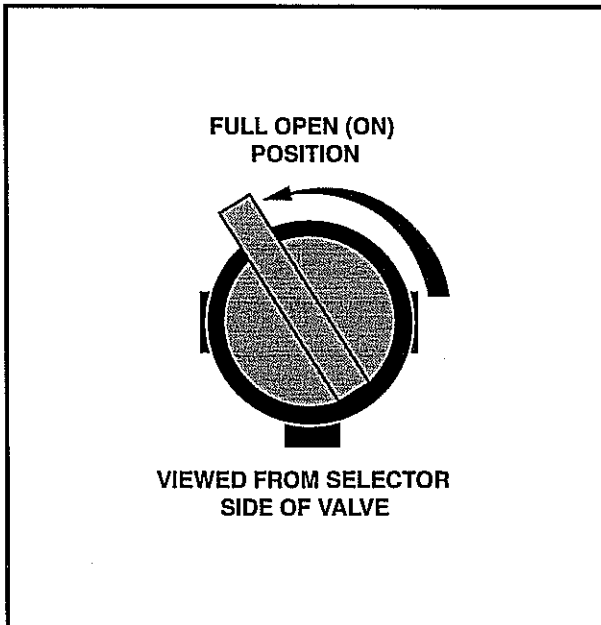
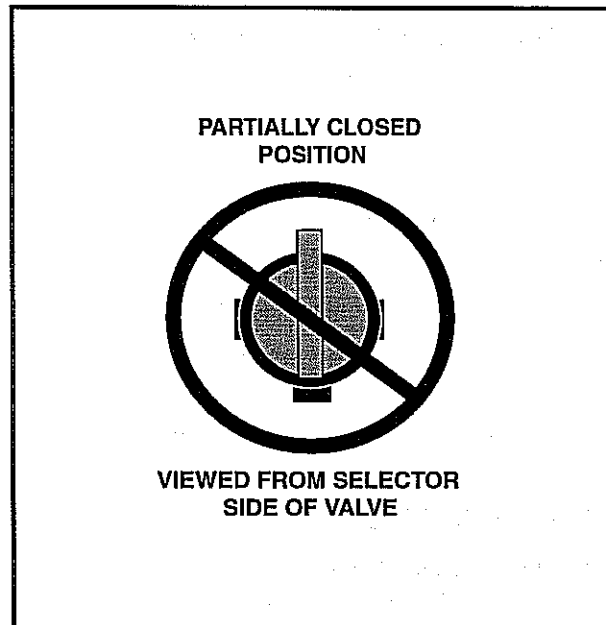

Figure 11 Fuel Shut-off Valve – Open Position
Figure 12 Fuel Valve – Partially Closed Position
4. **Gasoline vehicles only:** Completely open the fuel shut-off valve (**Figure 11**). Ensure the valve is fully open. A partially closed fuel shut-off valve combined with the use of the choke can result in a fouled spark plug and engine failure (**Figure 12**).